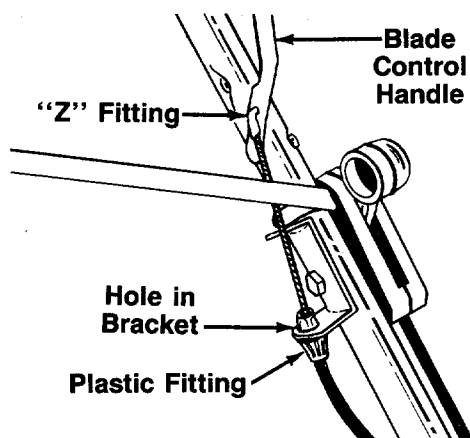

FIGURE 3.
1. The brake cable is attached to the engine, and has a "Z" fitting on the loose end. Route the brake cable above the drive cover and to the inside and below the lower handle. Place end of cable through the hole in the bracket as shown in figure 3. Push the plastic fitting until it locks into the hole in the bracket.
2. Hook the "Z" end of the brake cable into the hole in the blade control handle from the inside to the outside as shown in figure 3.